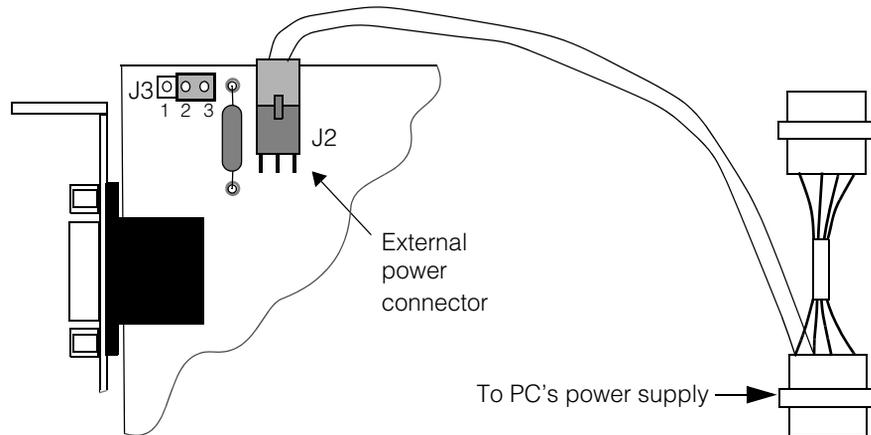

Figure 2. External power connector and jumper setting
4. Verify that a jumper covers pins 2 and 3 on connector J3 in the upper-left corner of the MVS-8100C, as shown in Figure 2.
6. Locate the MVS-8100C's external +12 V power connector at J2, as shown in Figure 2. Connect the 12 V power cable adapter (P/N 300-0175) to your PC's power supply and to the connector at J2. This cable provides additional power when multiple cameras are used. Both connectors are keyed, and can only be inserted one way.